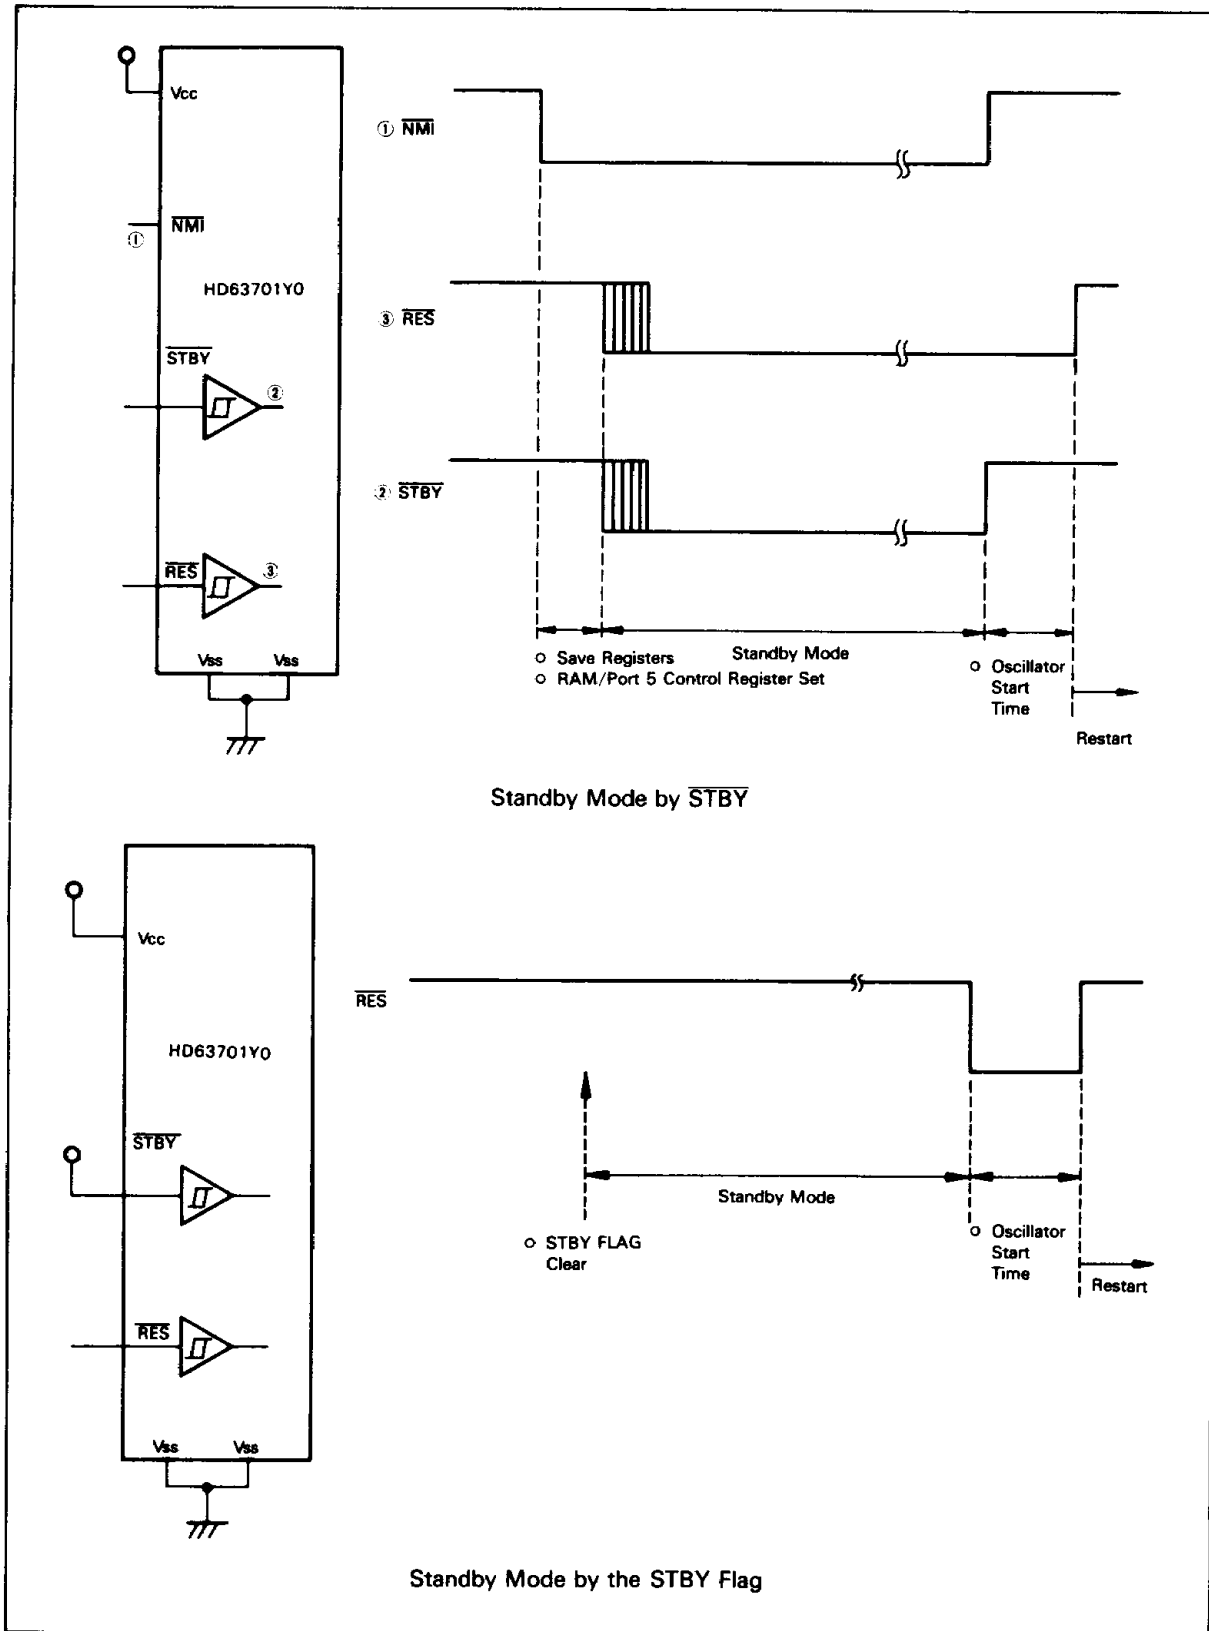

Figure 5. Standby Mode Timing
**Standby Mode** : The MCU goes to standby mode when the  $\overline{STBY}$  signal goes low, or when the STBY flag in the RAM/port 5 control register (RP5CR : \$0014) is cleared by software (figure 5). In standby mode, power dissipation is reduced to several  $\mu A$ .